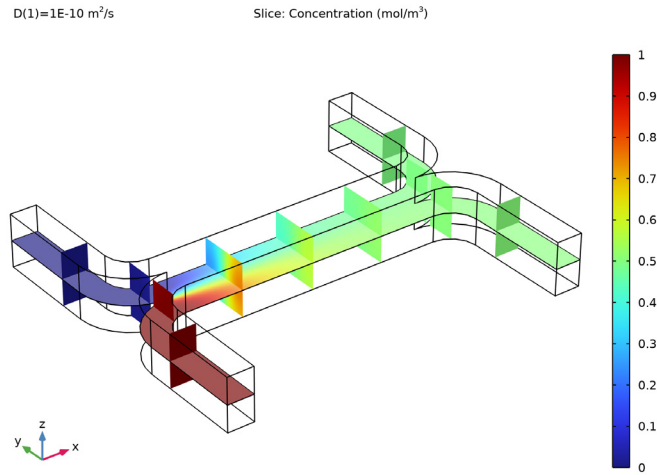

Figure 5: Concentration distribution for a species with diffusivity  $10^{-10} \text{ m}^2/\text{s}$ .
Figure 5 shows the concentration distribution for the species with the highest simulated diffusivity.
In some cases, especially those involving solutions of macromolecules, the macromolecule concentration has a large influence on the liquid's viscosity. In such situations, the model needs to be fully coupled and solve both interfaces simultaneously. Figure 7 shows the results of such a simulation. Here, the changes in viscosity have caused an asymmetry in the velocity. As a consequence of the modified flow field, the transport of molecules to outlet B is also different from the constant flow field case (Figure 8 versus Figure 5).
*Figure 8: Concentration distribution for the species with diffusivity  $1 \cdot 10^{-10} \text{ m}^2/\text{s}$  for the case where the fluid viscosity varies with concentration. Comparison with the plot in Figure 5 shows that fewer molecules of the species are transported to outlet B.*